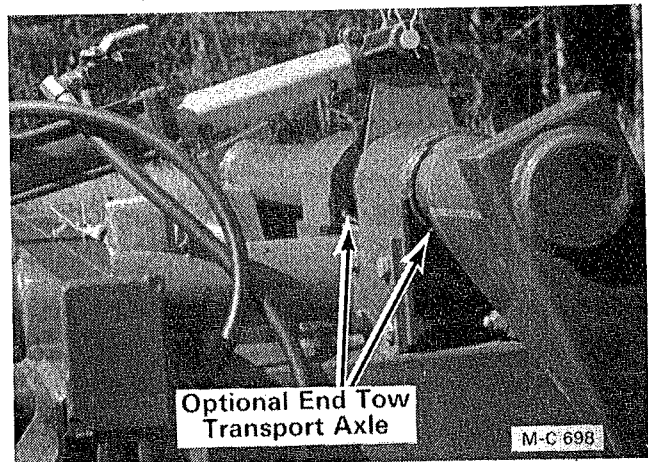

Figure 23A - Optional End Tow System
5. Axle on optional end tow system, see Figure 23A.